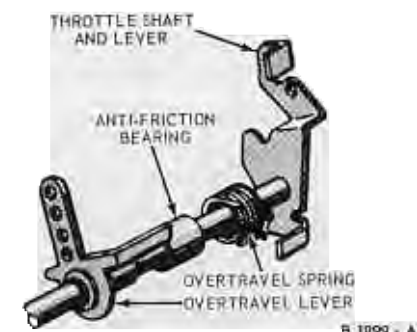

FIG. 20—Throttle Shaft Assembly
12. Slide the throttle shaft out of the main body. Remove the accelerating pump over-travel lever retainer. Slide the anti-friction bearing (bushing), spring and the lever off the throttle shaft (Fig. 20).